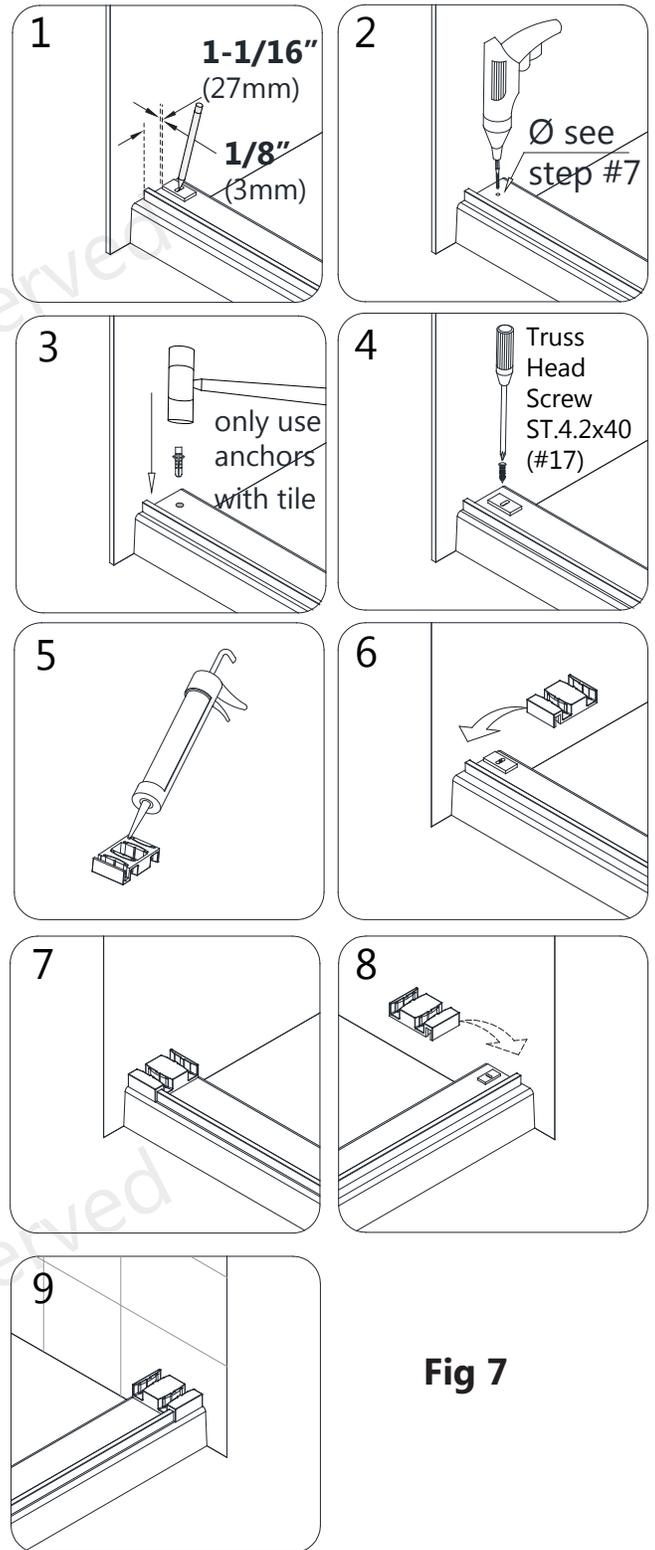

Fig 7
7. Place one of the **Guide Block Brackets (#15)** onto the threshold: **1-1/16" (27mm)** from the outside of the **Bottom Rail (#08)** and **1/8" (3mm)** from the wall. Mark the hole for drilling. **(Fig 7)**
Repeat this process for the **Guide Block Bracket (#15)** and **Guide Block (#09)** installation on the opposite wall. **(Fig 7)**
Fig 7 detail